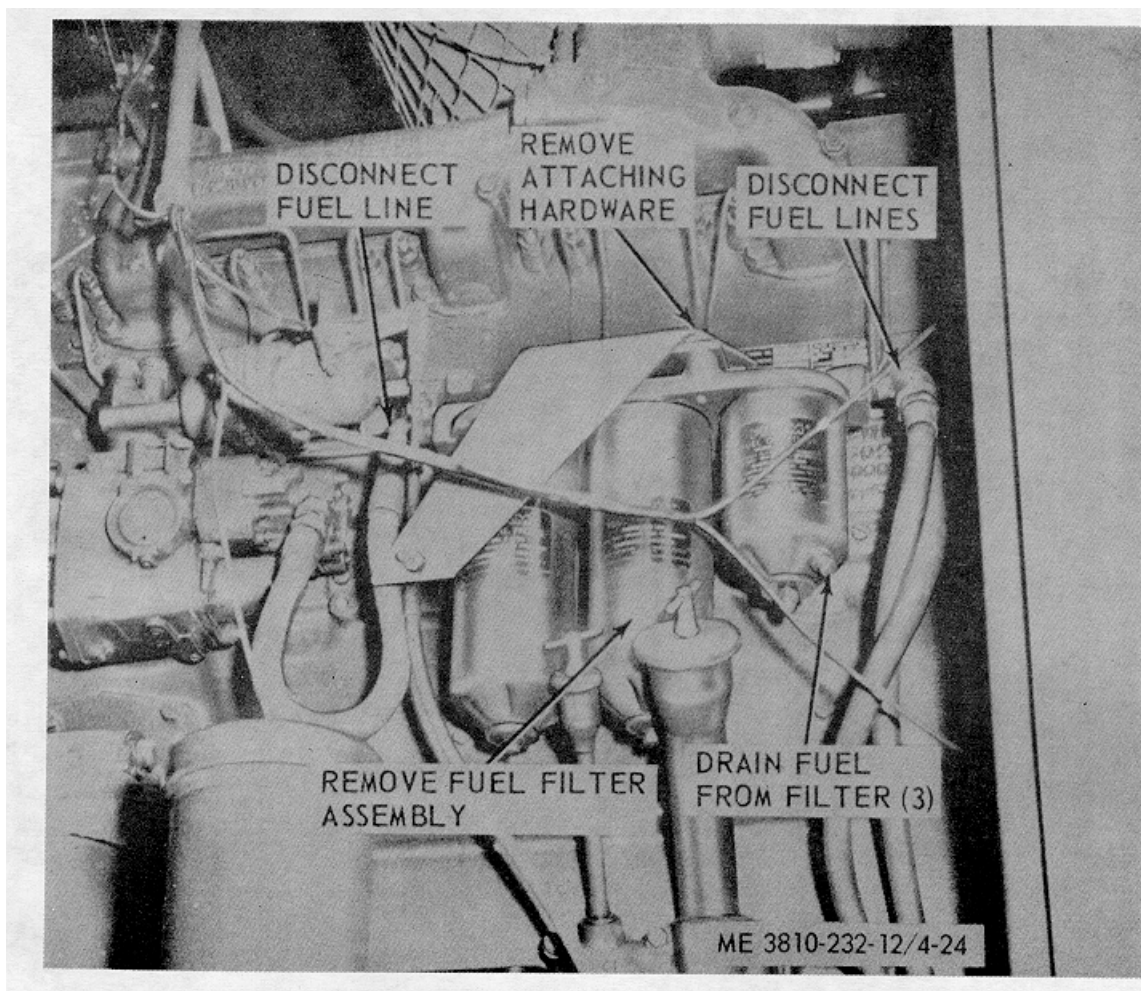

Figure 4-24. Crane engine fuel filters, removal and installation.
(1) Remove fuel filters as illustrated in figure 4-24.
- (2) Install fuel filters as illustrated in figure 4-24.